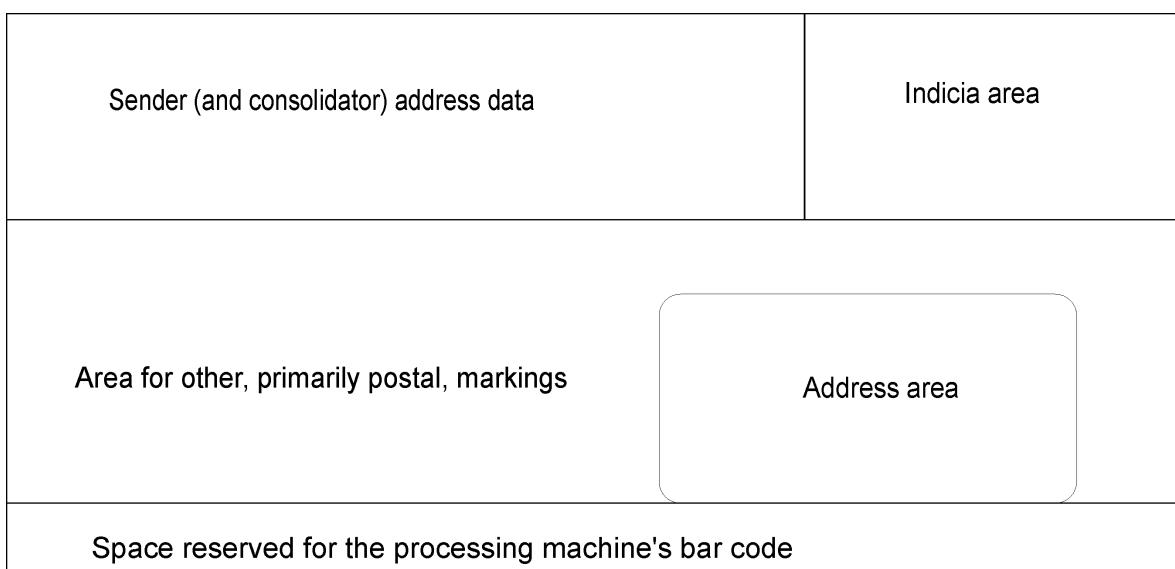

Figure 22: Front of a window envelope
- k) For registered items there must be a 5 mm wide clear zone between the barcode item identifier and the address block. (Figure 22)